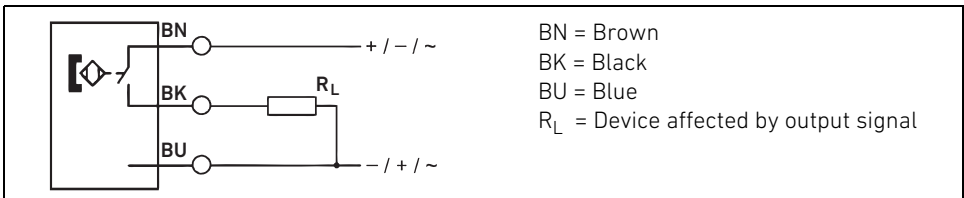

Fig. 8: Connection of sensor
5. Connect the sensors according to Fig. 8.
3. Position the sensor in the sensor holder and connect it according to Fig. 8 on page 44.
4. Adjust the position of the sensor, if required, by loosening the fixing screw of the sensor holder (2). Lock the screw when the holder is in the desired position.